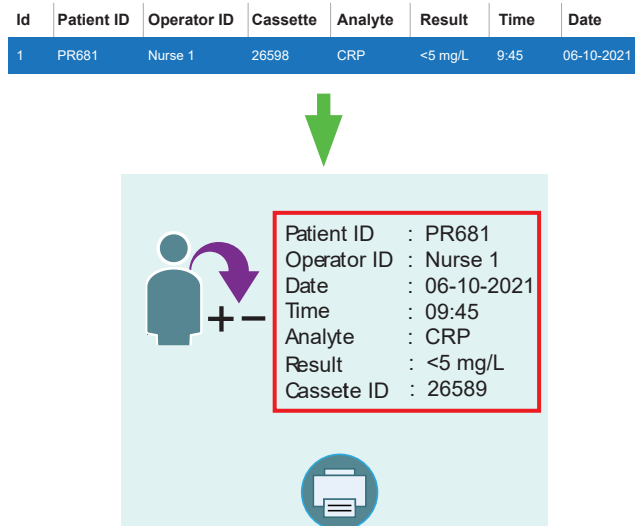

Figure 32. Retrieve a detailed view of a specific patient result
3. Tap on the Print icon. See Figure 32.